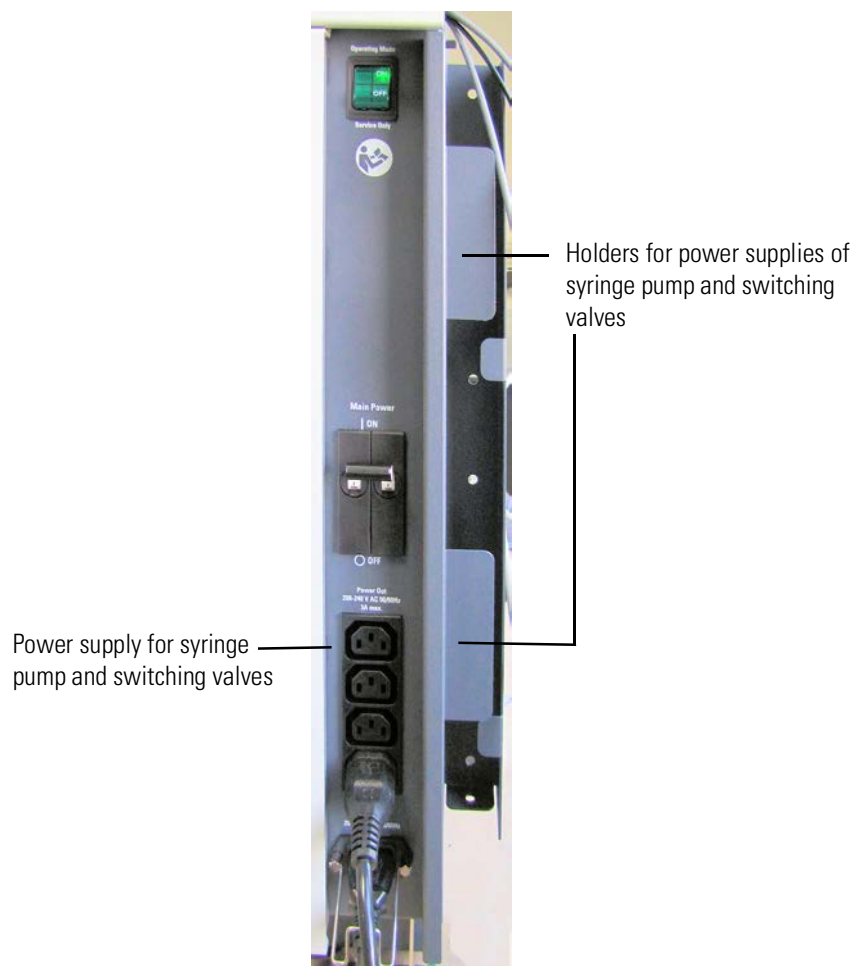

Figure 5-12. Power column
- b. Plug the 230 V power cord of the power supply into a peripheral supply port (labeled Power Out) at the power column of the MS. See Figure 5-12.
3. Place the power supply of the syringe pump into one of the holders at the rear side of the MS. See Figure 5-12.
- c. Connect the power cord of the switching valve to a peripheral supply port (labeled Power Out) at the power column of the MS. See Figure 5-12.